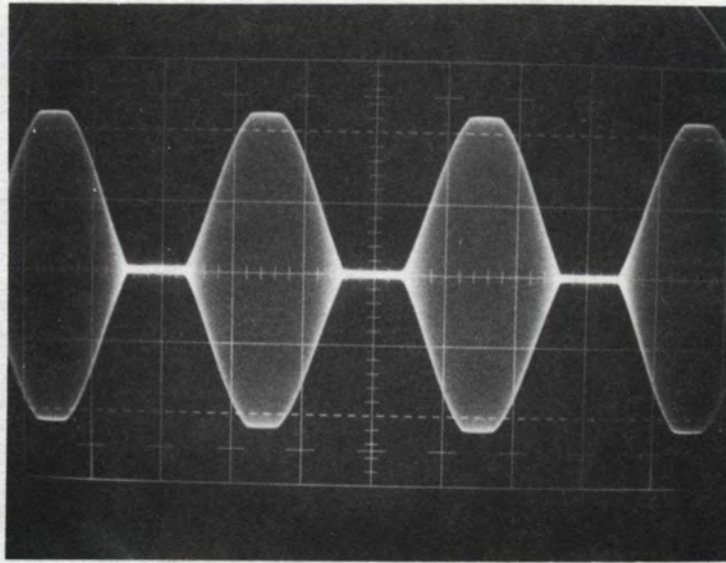
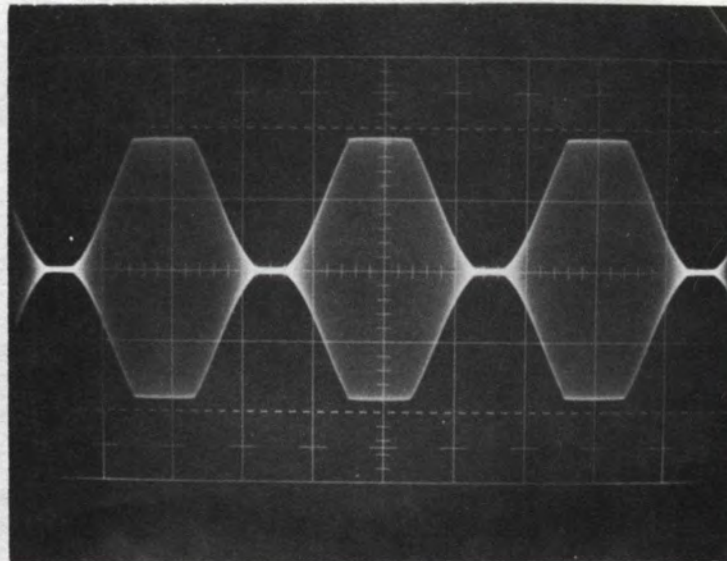

Figure 3-2. Correctly Phased Modulated R-F Envelope
Figure 3-3. Incorrectly Phased Modulated R-F Envelope
- H) Figure 3-2 shows a correctly phased waveform. If a waveform as in figure 3-3 is obtained, reverse the output leads to obtain the waveform in figure 3-2.